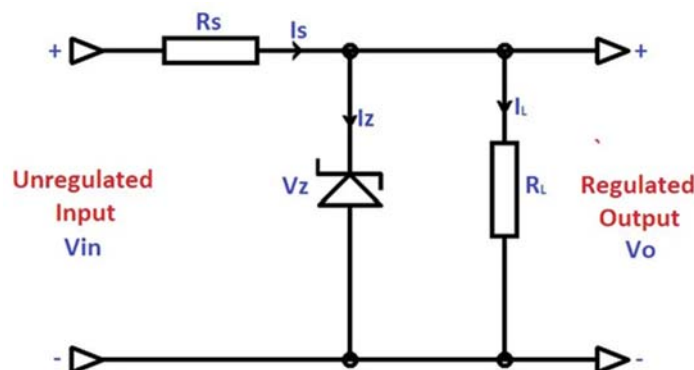

Fig. 1: Schematic representation of a Zener voltage regulator
**THEORY:** Zener diode is a P-N junction diode specially designed to operate in the reverse biased mode. Zener diode acts like a normal diode in the forward bias condition. In reverse bias, at a particular voltage known as Zener breakdown voltage, the current through the diode increases sharply. In the case of a normal PN junction diode, the diode damages at the breakdown voltage. However, when operated Zener voltage, if the power consumption through the diode is limited, the Zener diode can be safely operated in the reverse breakdown region, an important characteristic of a Zener diode is its Zener breakdown. The reason for Zener conduction is as follows. The depletion region in a diode is a function of doping concentration and bias voltage. When a diode is heavily doped, the depletion region will be very thin. By applying a suitable voltage, a strong electric field across the junction is created. The carriers from one side of the junction can cross the junction to reach on the other side and in this process, electron-hole pairs are generated, which are swept away by the inbuilt electric field across the junction. Once the voltage across the diode reaches a value, known as Zener voltage,  $V_Z$ , the current flow increases sharply, and heavy current starts flowing. This phenomenon is known as Zener break down. Once the Zener breakdown condition is reached, the voltage across the diode remains constant. If the current flow is not controlled, due to excess heat, the diode breaks down. This characteristic of Zener diodes is used to design voltage regulator circuits. The circuit shown in fig.1 describes a Zener voltage regulator.
From the circuits shown in Fig. 1, the current in the circuit can be written as in (1).
1. Connect the circuit as shown in fig. 1.